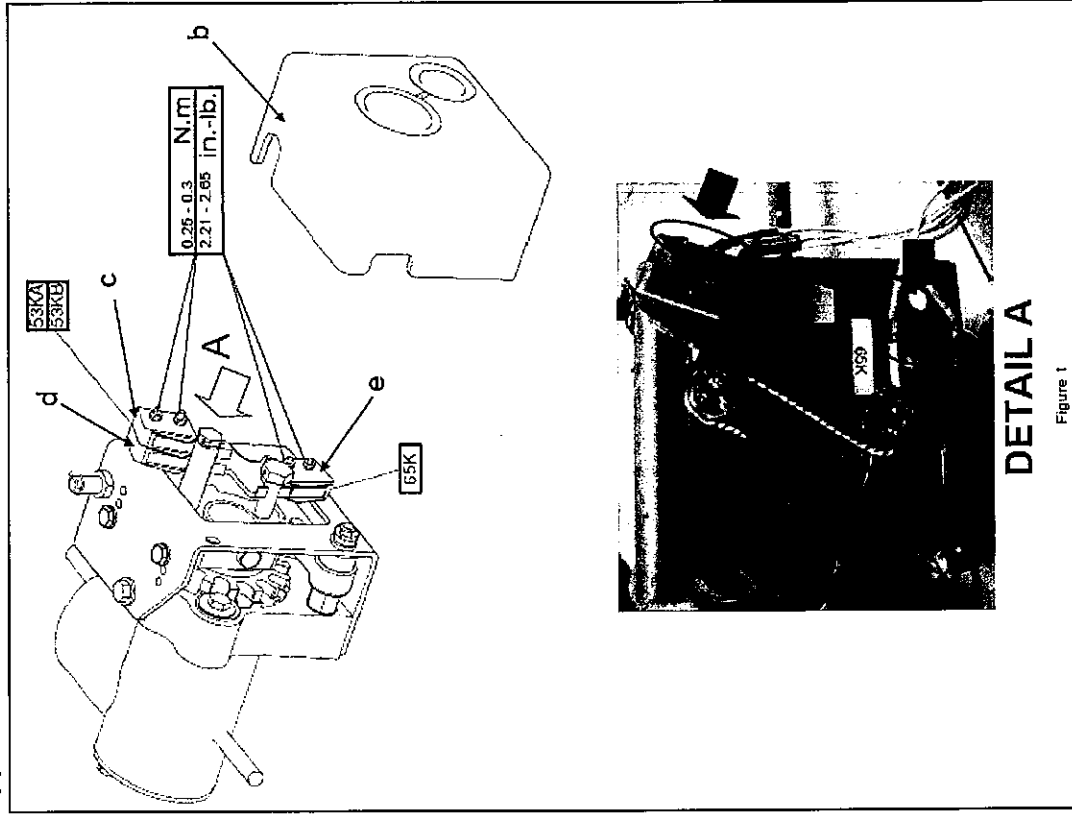

Figure 1
3. Visual inspection (Figure 1) (i.a.w. EASB AS350-05.00.77 R2 para 3.B.1.b.)